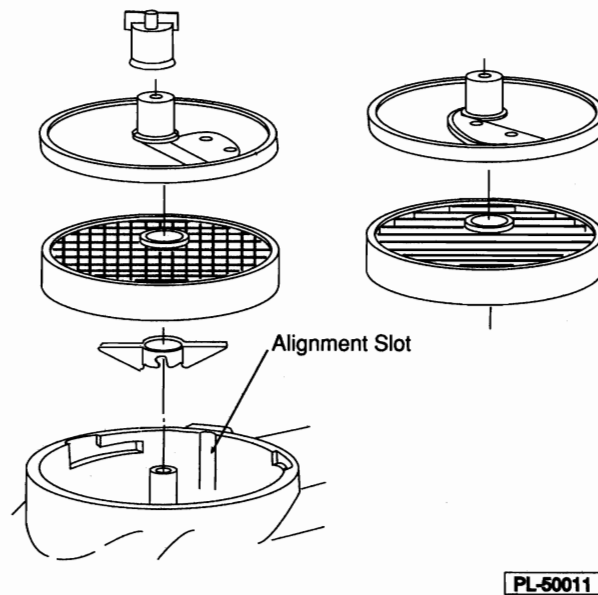

Fig. 3
## Operations With Two Plates (Fig. 3)
3. Select the proper size dicing or French fry plate; place the plate on the knife shaft so the round screw head fits in the alignment slot, Fig. 3. Select the appropriate cutting plate for the job. Place the plate on the shaft; turn the plate until it drops.